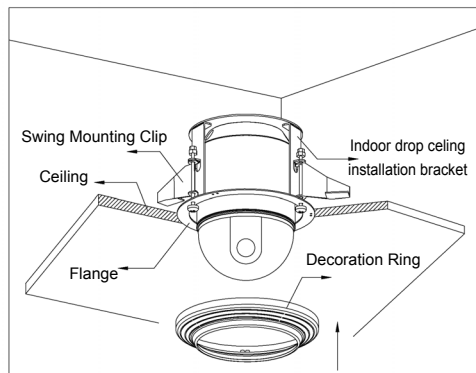

Figure 21
7) Turn the three mounting clip bolts to let the mounting clips press the ceiling and swing out gradually. The ceiling is clamped between the mounting clips and the flange, thus the back box is secured above the ceiling. (Figure 21).